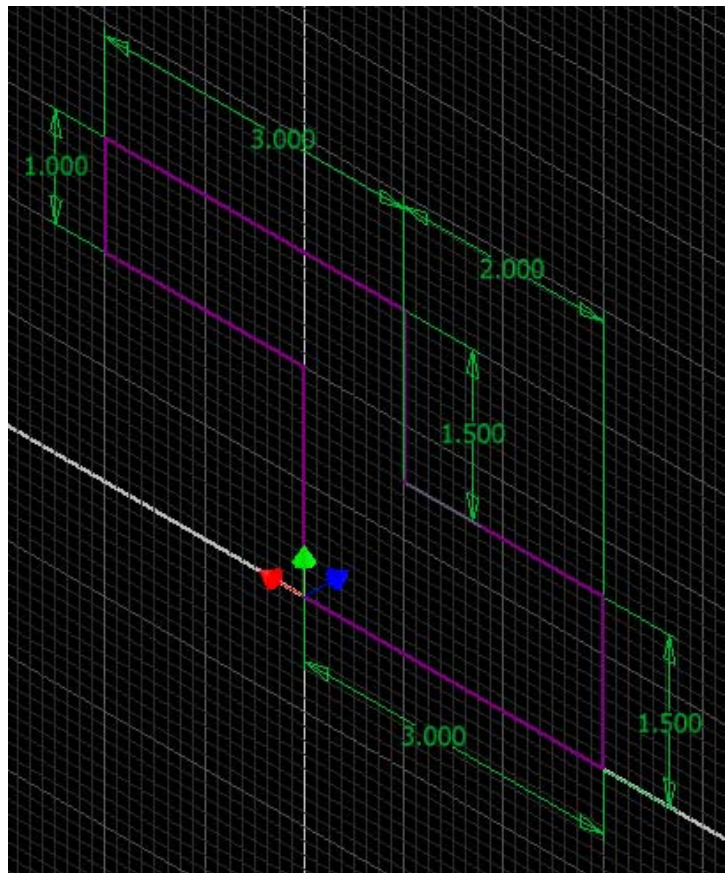

**Figure Step 9A**
**Step 9** Project the Center Point onto the sketch plane. Draw the base sketch for the object applying all of the necessary geometrical constraints to maintain the shape of the sketch. Note the location of X0Y0Z0. Insert the necessary driving dimensions to fully constrain the sketch. (Figure Step 9A and 9B)